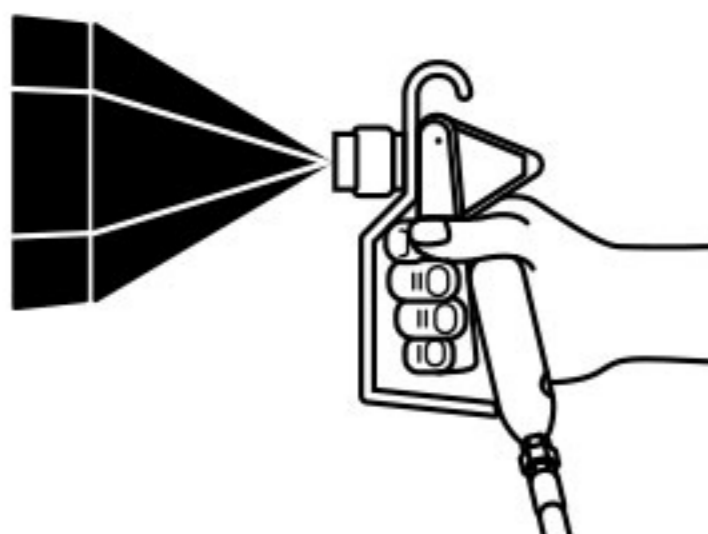

Figure 3
3. Adjust pressure control knob so that paint is completely atomised from the spray gun. Insufficient pressure will result in "tailing". (See Figure 3)